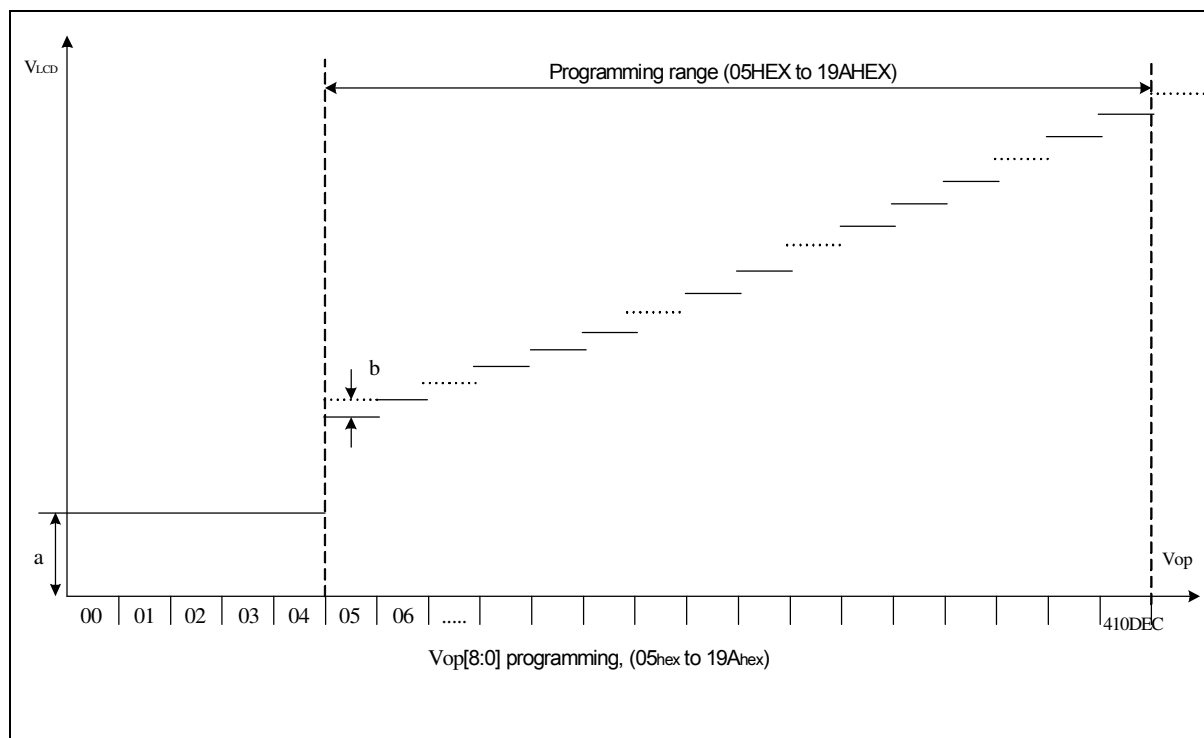

Fig. 7.10.2 VLCD programming range
The VOP[8:0] value must be in the V_{LCD} programming range as given in Fig.7.10.2. Evaluating equation (1), values outside the programming range indicated in Fig.7.10.2 may result. Calculated values below VOP[8:0]=4 will be mapped to VOP[8:0]=4, resulting V_{OP} values higher than VOP[8:0]=410 will be mapped to V_{OP}=410.